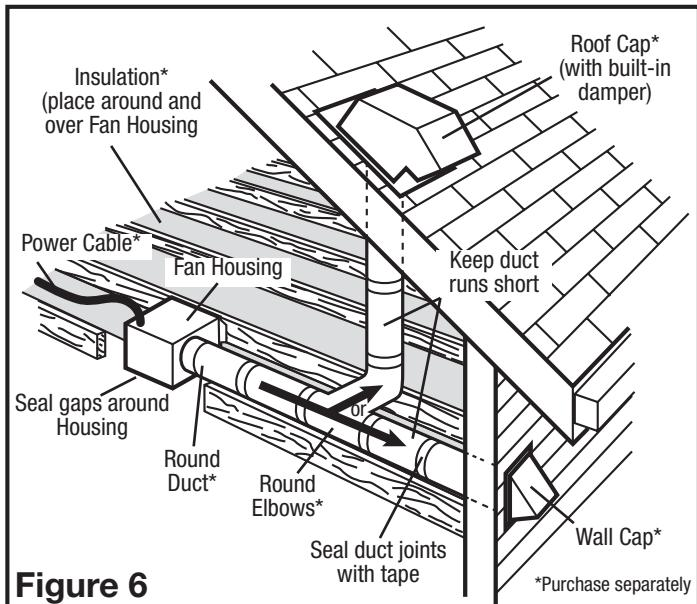

Figure 6
2. Ensure duct joints and exterior penetrations are sealed with caulk or other similar material to create an air-tight path to minimize building heat loss or gain and to reduce the potential for condensation. Place/wrap insulation around duct and/or fan in order to minimize possible condensation buildup within the duct, as well as building heat loss or gain (**Figure 6**).